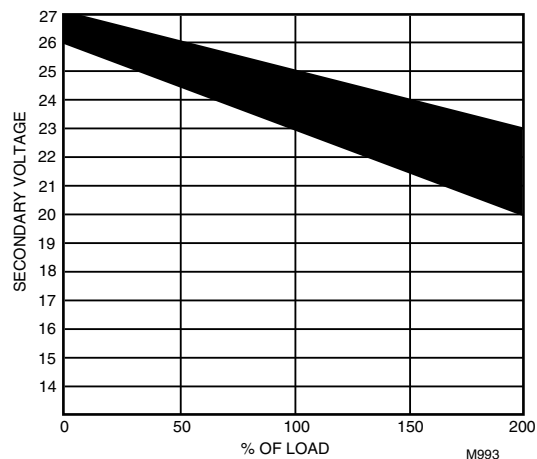

Fig. 11. NEMA Class 2 transformer voltage output limits.
Fig. 11 shows this voltage load dependence.
In the preceding I x R loss example, even though the controller load is only 37 VA, a standard 40 VA transformer is not sufficient due to the line-loss. Looking at Fig. 11 a 40 VA transformer is just under 100 percent loaded (for the 37 VA controller) and has a secondary voltage of 22.9 volts. (Use the lower edge of the shaded zone in Fig. 11 that represents the worst case conditions.) When the I x R loss of four volts is subtracted, only 18.9 volts reaches the controller. This is not enough voltage for proper operation. In this situation, the engineer has three alternatives:
1. Use a larger transformer. For example, if an 80 VA model is used, an output of 24.4 volts, minus the four volt line-loss, supplies 20.4V to the controller (see Fig. 11).
To meet the National Electrical Manufacturers Association (NEMA) standards, a transformer must stay within the NEMA limits. The chart in Fig. 11 shows the required limits at various loads. With 100 percent load, the transformer secondary must supply between 23 and 25 volts to meet the NEMA standard. When a purchased transformer meets the NEMA standard DC20-1986, the transformer voltage regulating ability can be considered reliable. Compliance with the NEMA standard is voluntary.